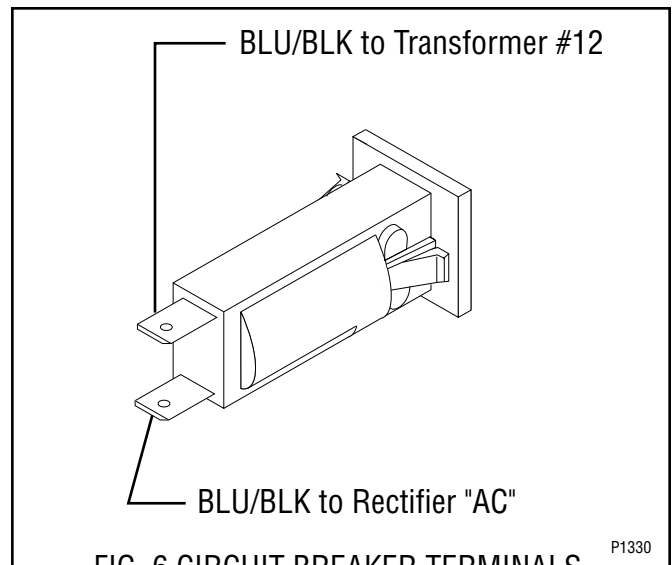

FIG. 6 CIRCUIT BREAKER TERMINALS
5. Refer to Fig. 6 when reconnecting the wires.